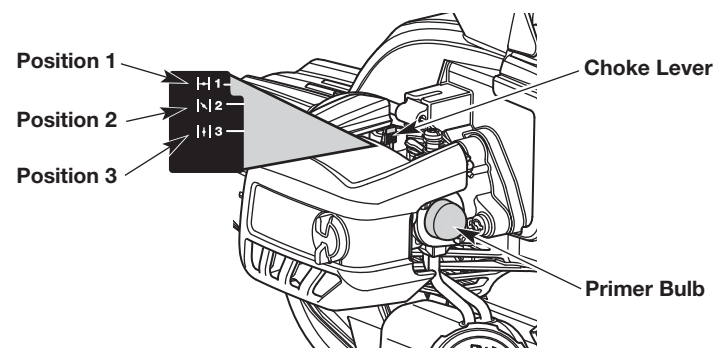

Fig. 5
3. Fully press and release the primer bulb **10** times, slowly. Some amount of fuel should be visible in the primer bulb (Fig. 5). If fuel can not be seen in the bulb, press and release the bulb until fuel is visible.
4. Move the choke lever to **Position 1** (Fig. 5).
7. **Continue to squeeze the throttle control.** Move the choke lever to **Position 2** (Fig. 5).
10. **Continue to squeeze the throttle control.** Move the choke lever to **Position 3** (Fig. 5).